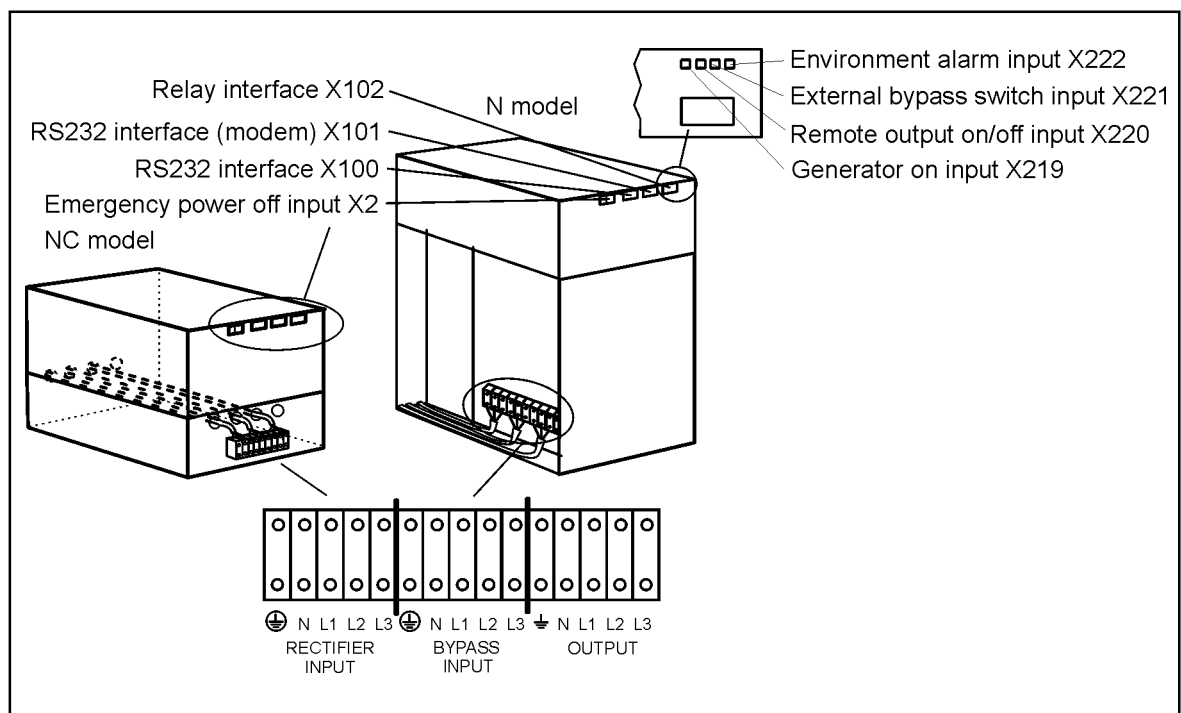

Fig. 4b. UPS connection locations
8. Connect input cables and output cables to the UPS (Fig 4b).
An interface for direct communication with your computer system is supplied in the UPS unit. The interface consists of two RS232 serial data interfaces, four potential free relays, Emergency power off input and four programmable auxiliary inputs. Default values of these auxiliary inputs are: Generator on, Remote output on/off, External bypass switch and Environment alarm. These interfaces are located behind the upper front panel (see figure 4b). The UPS is designed to fully comply with LanSafe III and FailSafe III software. If any software not provided by the manufacturer is used, the pin configuration should be verified.
This relay interface uses a 15-pin male D-sub connector (X102, see figures 4b). The following information is available from these relays:
This input is used to shut down the UPS from a distance. This feature can be used for emergency power down, or for shutting down the load and the UPS by thermal relay for instance in the event of room overtemperature. Remote shut down wires are connected on connector X2 (see figure 4b).
The generator auxiliary contact wires are connected on terminal X219 on the control interface board behind Relay Interface connector X102 (see figure 4b). In normal operation the pins X219/1 and X219/2 are not to be connected together. When the connection between these pins are connected together by floating contacts of the generator control device, the logic circuitry on the UPS will prevent the transfer to unstable power source. When the unit is delivered the connection on terminal X219 will be open.
If the UPS system is equipped with an external bypass switch, its status can be monitored by the UPS via terminal X221. The external bypass switch auxiliary contact wires are connected on terminal X221 on the control interface board behind Relay Interface connector X102 (see figure 4b).
The remote output on/off input is used to shut down the inverter from a distance. Remote output on/off wires are connected on connector X220 behind Relay Interface connector X102 (see figure 4b).
The environment alarm input contact wires are connected on terminal X222 on the control interface board behind Relay Interface connector X102 (see figure 4b).